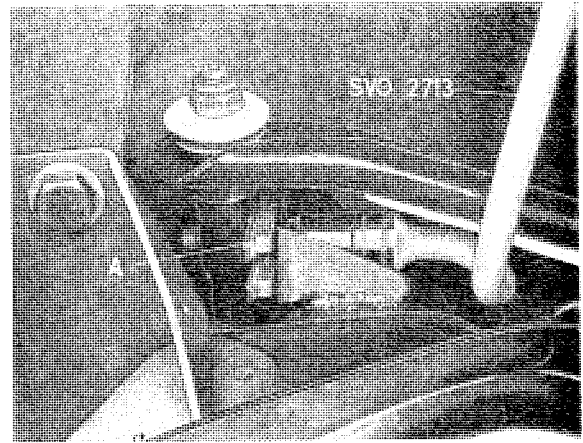
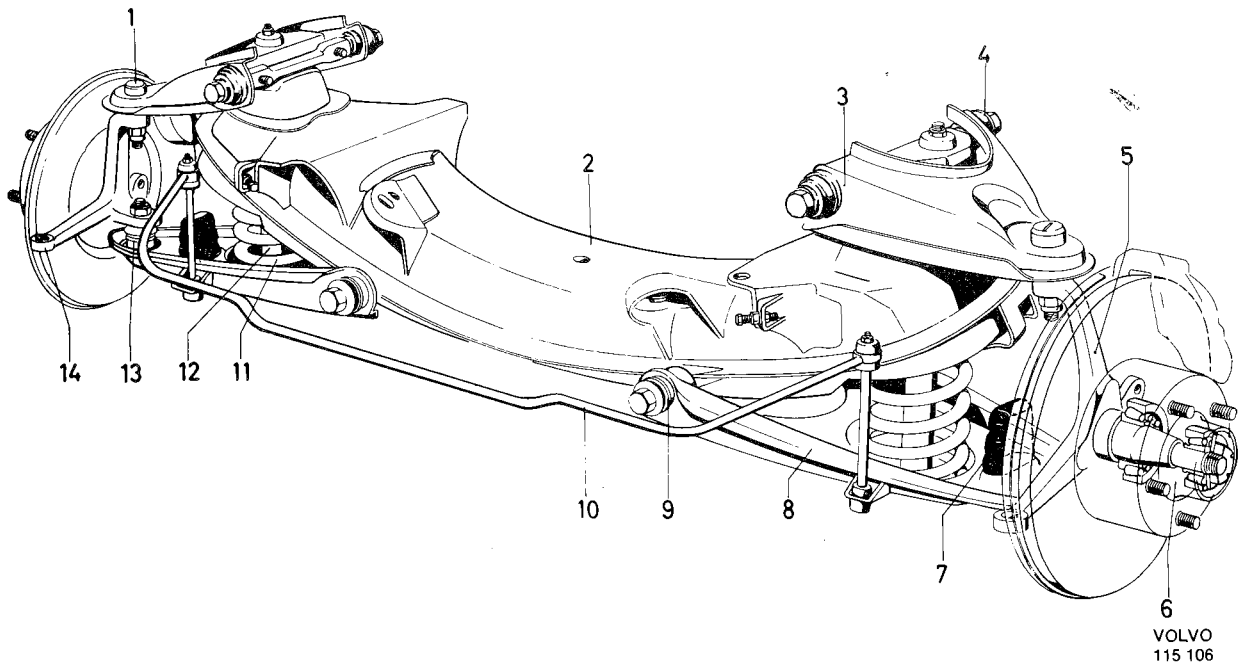

Fig. 6-7. Adjusting caster and camber
Fig. 6-11. Front end
To adjust, slacken the special bolts at the upper control arm shaft with tool 2713 (Fig. 6-7). Use one end of the tool for the front bolt and the other for the rear bolt. After the bolts have been slackened several turns, the requisite number of shims can be either removed or added, whichever is the case. Positive caster is obtained by either **adding** shims to the **rear** bolt or **removing** shims at the **front** bolt.
To adjust, slacken the special bolts at the upper control arm shaft several turns with tool 2713 (Fig. 6-7). Use one end of the tool for the front bolt and the other for the rear
The vehicle has independent front wheel suspension. This means that there is no actual front axle, this being replaced by a strong box-section front axle member. This member is bolted to the self-supporting body and the front wheel suspension and springs are fitted at the ends of the member. The construction is illustrated in Fig. 6-11. The steering knuckle is pivoted on the upper and lower control arms by means of ball joints (1 and 13), which are pressed into control arms. The control arm shafts are carried in rubber bushings, which are journalled in the control arm. Camber and caster are adjusted by means of shims between the upper control arm shaft and its attachment in the front axle member (see Fig. 6-7).
The front wheels are carried in taper roller bearings (Fig. 6-11). The front spring assembly consists of coil springs (11) inside which telescopic shock absorbers (12) are fitted. In order to increase its anti-rolling properties, the car is equipped with a stabilizer (10), which is anchored partly to the lower control arms (8) and partly to the body.